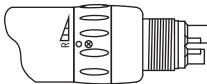

Fig.5
- (2) Reverse Rotation : Turn the FWD/REV Change Ring to“R”as shown in Fig.5.